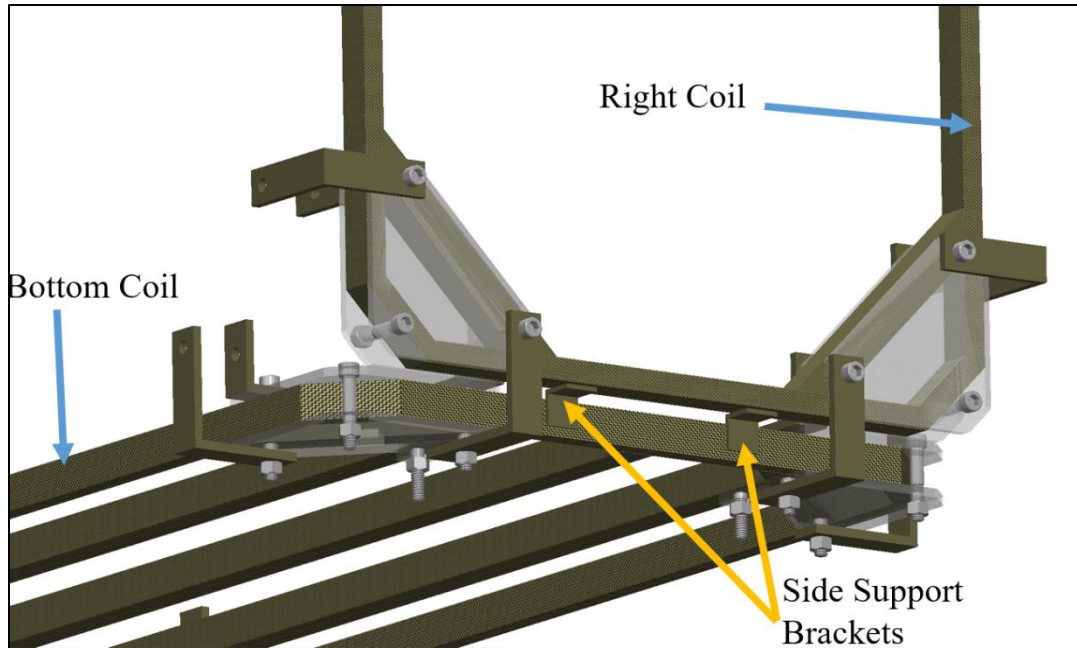
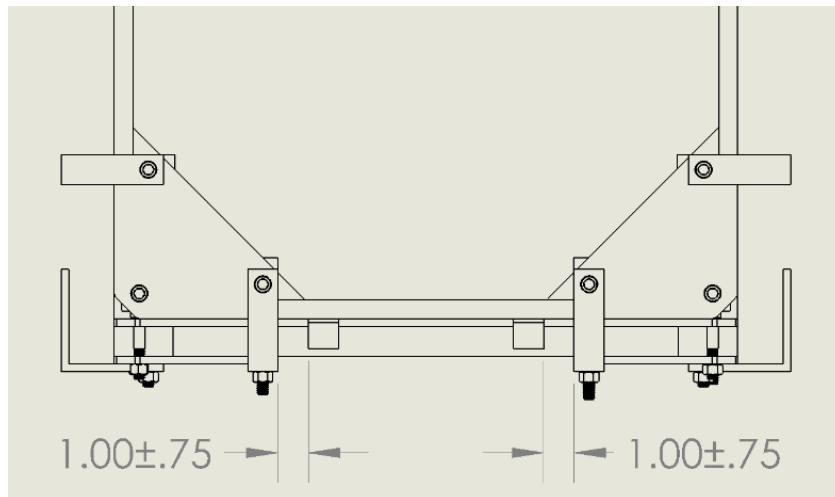

Figure 1.2
Figure 1.3
2. Epoxy two Side Support Brackets (PN THOA010) to the Bottom Coil as shown in Figure 1.2. One leg of the bracket should be flush to the Bottom Coil, and the other flush to the Right Coil. The leg flush to the Right Coil **SHOULD NOT** be epoxied to the Right Coil. The outside edge of each Side Support Bracket should be about $1'' \pm 0.75''$ away from the closest edge of the nearest Longer Outer Angle Bracket. Dimensioning is shown in Figure 1.3.
4. Epoxy two Side Support Brackets (PN THOA010) to the Bottom Coil as shown in Figure 1.3. One leg of the bracket should be flush to the Bottom Coil, and the other flush to the Left Coil. The leg flush to the Left Coil **SHOULD NOT** be epoxied to the Left Coil. The outside edge of each Side Support Bracket should be about $1'' \pm 0.75''$ away from the closest edge of the nearest Longer Outer Angle Bracket. See Figure 1.3 from Step 2 for reference on dimensioning and location details.